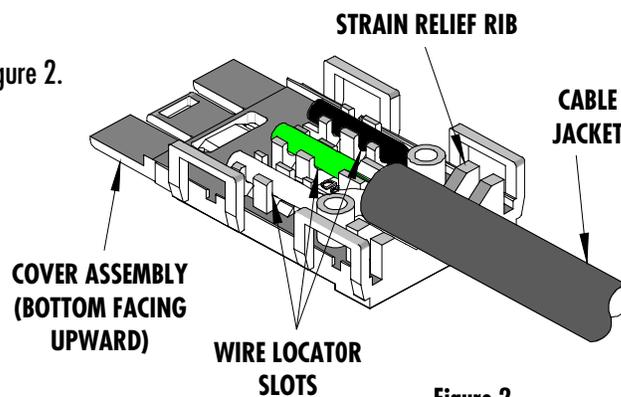

Figure 2
2. Position the clear cover (bottom facing upward) as shown in Figure 2.
3. Position wires into locator slots. Be certain to place black wire in slot marked BLK, green wire in slot marked GRD, and the white wire in the third slot. Upon final positioning of all wires, be certain the end of the cable jacket is a minimum of .06" past the second strain relief rib as shown in Figure 2.